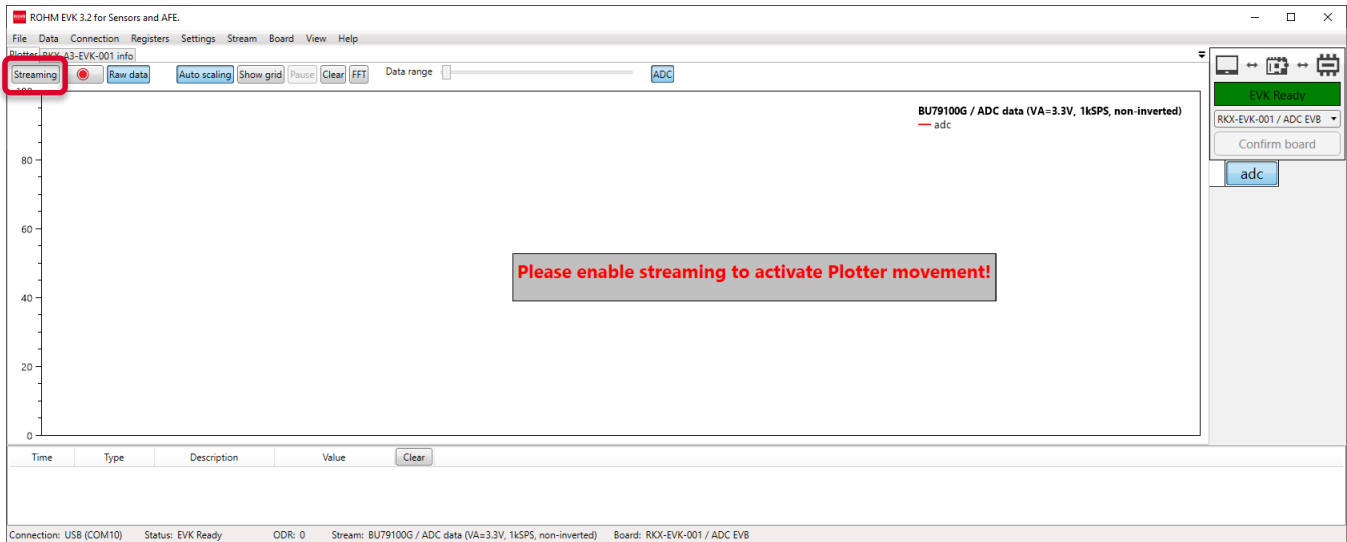

Figure 7. Streaming view
- Confirm your device by clicking the Confirm Board- button. Connection indicator will change to Green, EVK Ready status (Figure 7).